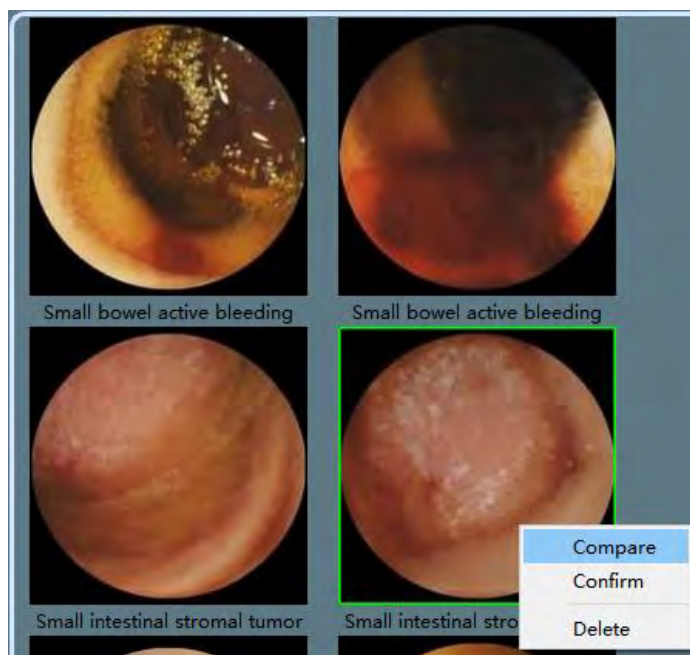

Figure 4-66: Comparison Between Exam Image and Atlas Image
- On the atlas image to be compared, right click and select “Compare” in the pop-up menu to open the image comparison interface and compare the selected exam image with the atlas image, as shown in Figures 4-66 and 4-67. The image scaling factor can be changed by dragging the slider or scrolling the mouse.